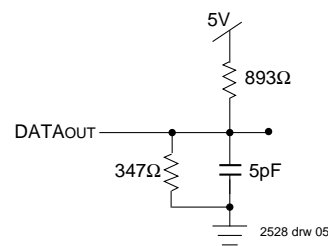

Figure 2. Output Test Load (for t_{HZ}, t_{wz}, and t_{ow}) Including scope and jig.
1. Transition is measured $\pm 200\text{mV}$ from Low or High-impedance voltage with Output Test Load (Figure 2).
4. Transition is measured $\pm 200mV$ from the Low or High-impedance voltage with the Output Test Load (Figure 2).